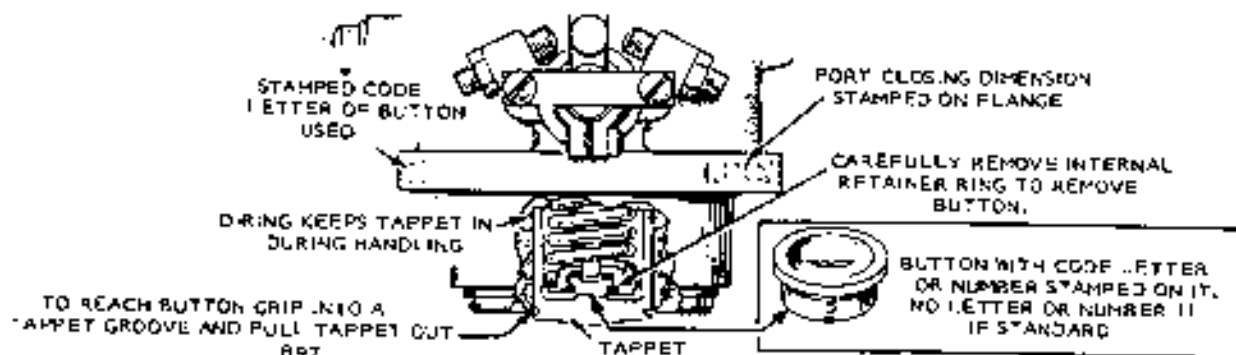

FIGURE 9-11. INJECTION PUMP BUTTON INSTALLATION
When removing the pump for replacement, record the button thickness and port closing dimensions stamped on the side of the pump mounting flange. Figure 9-11. These values are important in timing the new pump to the engine.
Install the correct button in the pump (Figure 9-11) and install the pump following the instructions under *Injection Pump Installation*.
- Remove pump and insert proper timing button, Figure 9-11.